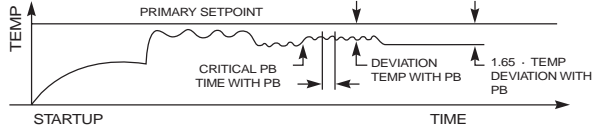
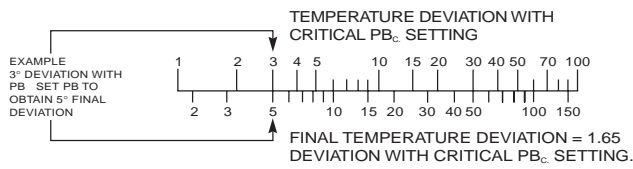

Figure 3. Calculating Final Temperature Deviation
Figure 4. Nomogram I
The desired final temperature deviation can be calculated by multiplying the initial temperature deviation achieved with the CRITICAL PB setting by 1.65 (see Figure 3) or by use of the convenient Nomogram I (see Figure 4). Try several trial-and-error settings of the PB control until the desired final temperature deviation is achieved.
2. Increase the PB setting until the temperature deviation (droop) increases 65%. Nomogram I (see Figure 4) provides a convenient method of calculating the desired final temperature deviation.
- **Direct-control AC types** (see figure 4), in which external contacts, operating in a circuit energized by the same AC power line as is used for the load circuit, trigger a TRIAC (or back-to-back-connected SCR's). This type is also referred to as having a “switch closure” input. Clearly, this type of relay, while simpler and inherently less expensive than more sophisticated designs, has the great disadvantage (for most applications) of having no isolation between the control and load circuits.